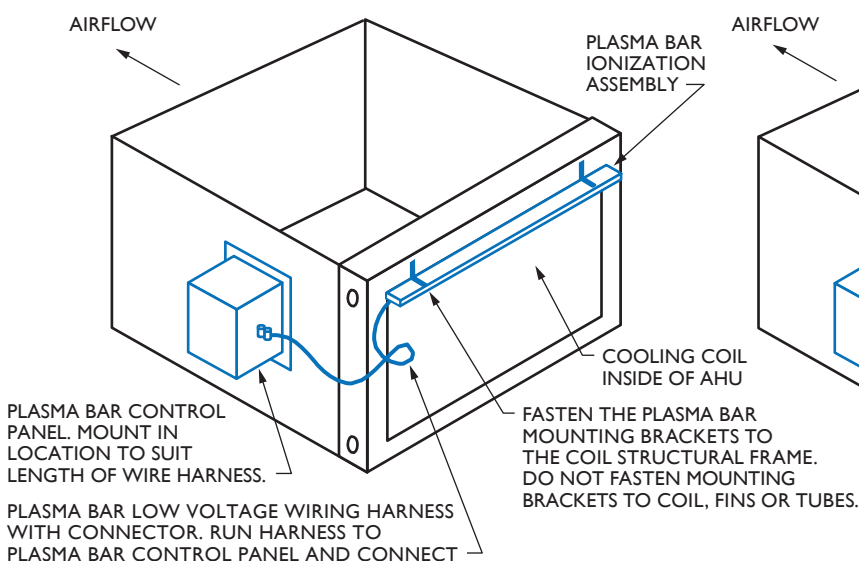
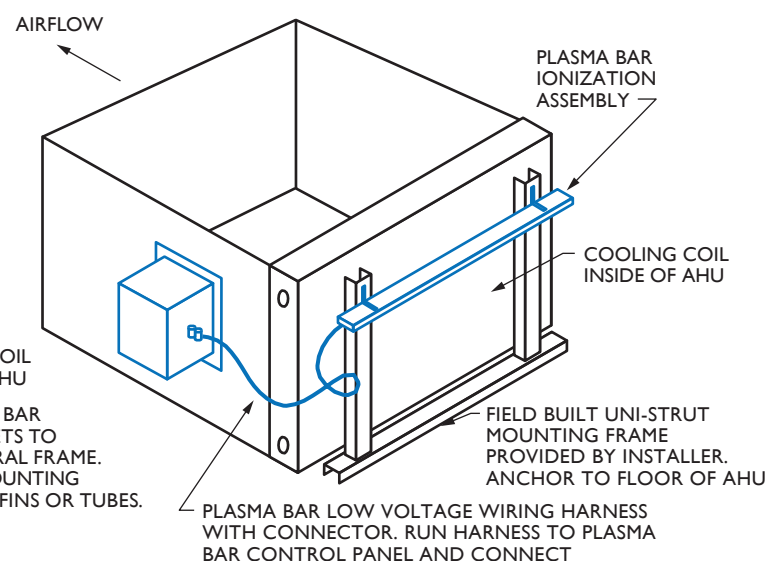

FIGURE 1a
FIGURE 1b
2. The preferred mounting location for the Plasma BAR is on the entering face of the cooling coil inside of an Air Handling Unit (see Figure 1a). The mounting brackets provided shall be secured to the structural frame of the coil without damaging the coil's fins or tubes. Vertical uni-strut provided by the installer may be utilized to aid in mounting of the Plasma BAR if necessary. (See Figure 1b). The BAR can also be mounted downstream of the cooling coil as long as moisture carryover on the BAR is avoided.
3. Once the Plasma BAR is securely fastened inside the Air Handling Unit, mount the Plasma Bar Control Panel at a nearby location to allow connection of the Plasma BAR wiring harness to the control panel (Figure 1a or Figure 1b).